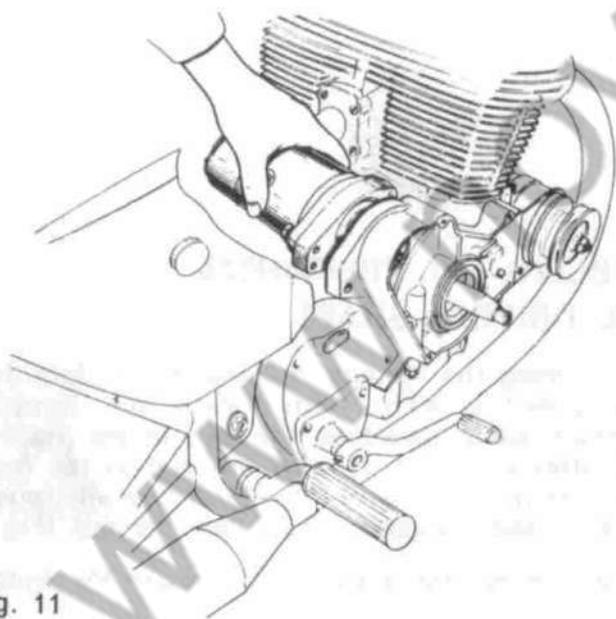

Fig. 11
- 4) Unscrew both screws securing the starter to the crankcase, slightly lifting the starter till it gets disengaged from its seat. At the same time withdraw the sprocket, as Fig. 11 clearly illustrates.